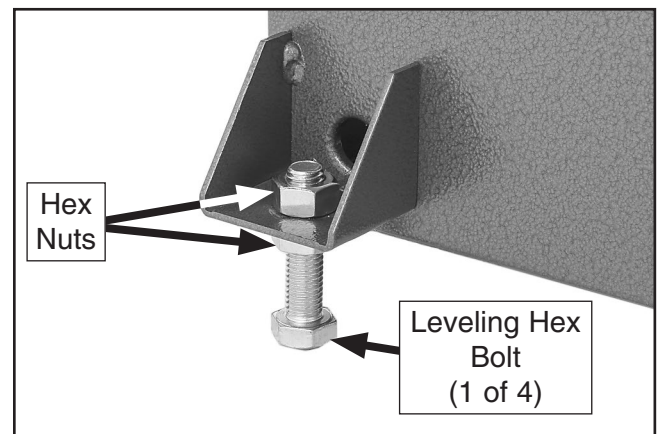

Figure 9. Leveling bolt threaded into frame.
6. Thread (1) M12-1.75 hex nut onto each of (4) M12-1.75 x 50 leveling hex bolts, then thread these into each of the (4) mounting holes in frame (see **Figure 9**).
7. Thread an additional hex nut onto each leveling hex bolt (see **Figure 9**).